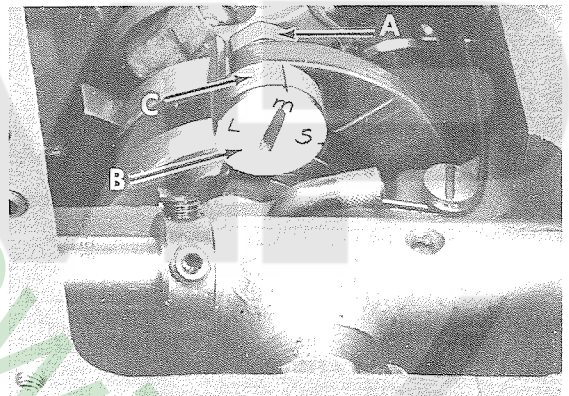

Fig. 14
These machines are fitted with an adjustable 401 looper avoid link to accommodate extreme needle sizes from 075/029 to 140/054. Machines shipped from the factory will have the setting for the sizes as listed under the "NEEDLES" paragraph, unless otherwise specified. Should adjustment become necessary, drain oil from the machine and remove bottom cover. Loosen nut (A, Fig. 14) and rotate eccentric stud (B) to align the letter "S", "M" or "L" which represent small, medium or large looper avoid, respectively, with timing mark in looper avoid link (C) as required. To ensure a uniform setting, position the needle head at the bottom of its stroke before aligning the letter on the eccentric stud with respect to the timing mark in the looper avoid link. Recommended settings for machines using needle sizes: